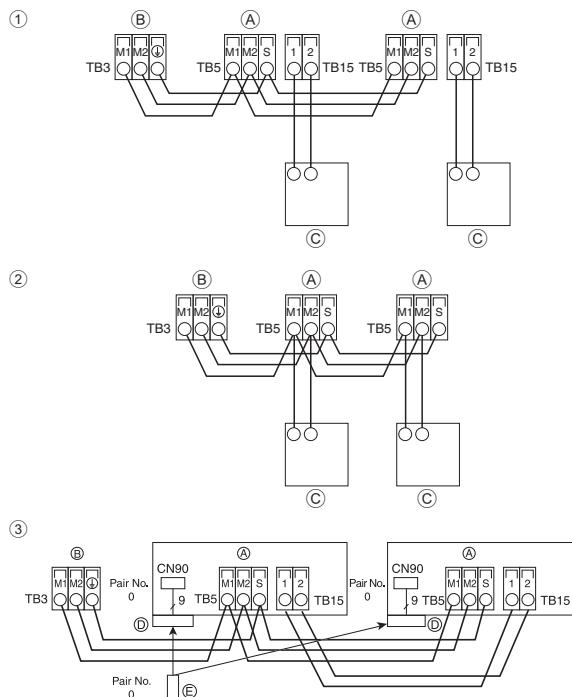

Fig. 6-3
6.4. Connecting remote controller, indoor and outdoor transmission cables (Fig. 6-3)
- ① MA Remote controller
- ② M-NET Remote controller
- ③ Wireless remote controller(When installing wireless signal receiver)